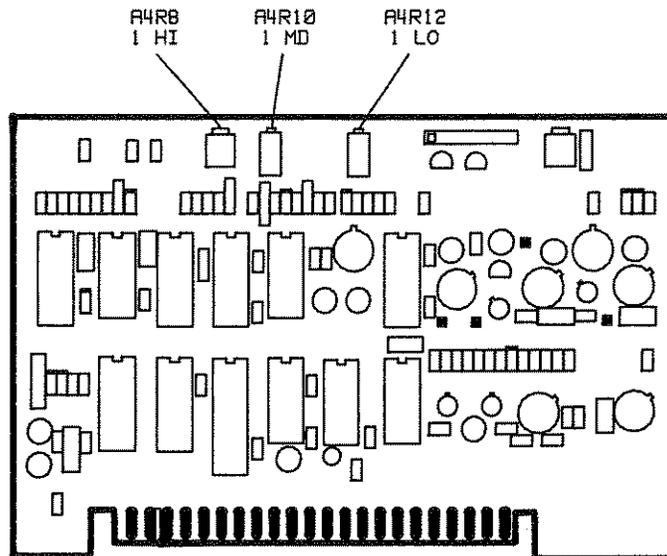

Figure 5-24. Power Calibration Adjustment Location
4. Adjust A4R12 (1 LO) for a power meter reading of -1 dBm ± 0.1 dB. Refer to Figure 5-24.